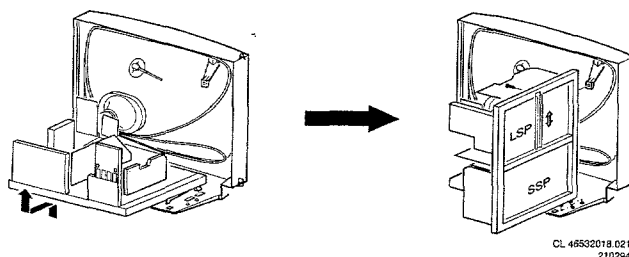

Fig. 4.2
4.2 Service position FL4 (fig. 4.2)